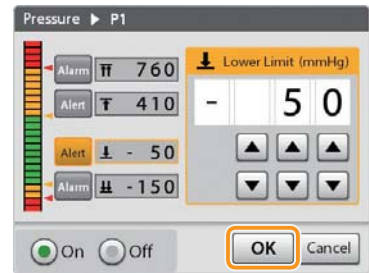

Figure 3-18
12. Tap [OK] to complete the setting. (Figure 3-18)